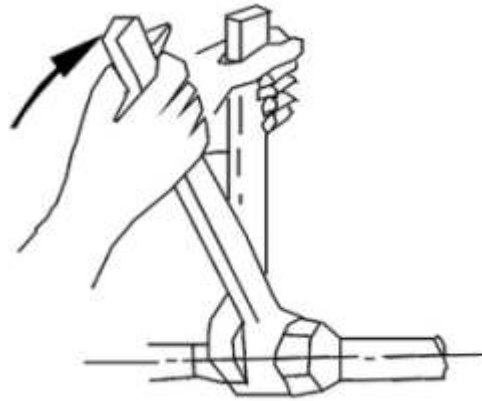

Figure 7
- When connecting the water inlet and outlet pipes, use two pipe wrenches to adjust the two parts of the pipes, and make sure the water inlet and outlet pipes do not twist (see Figure 7).